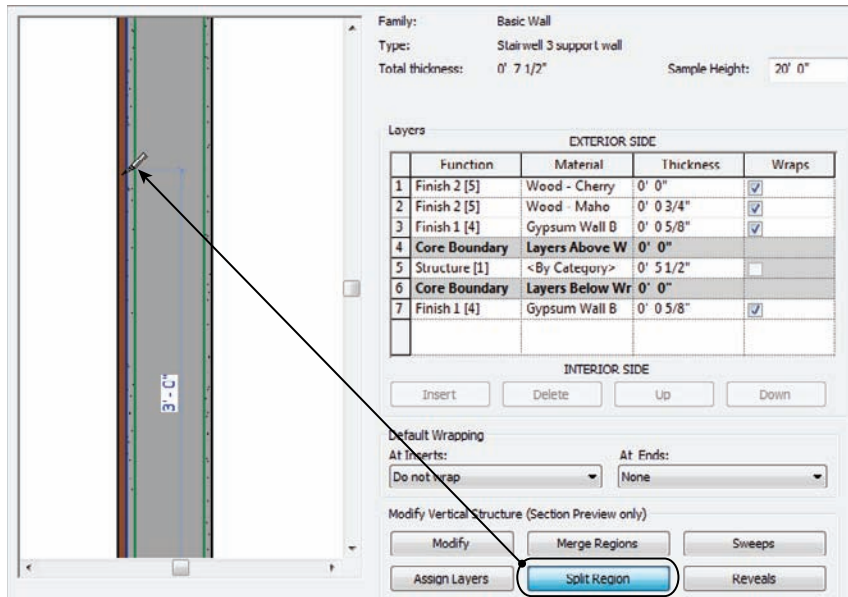

FIGURE 16.6 Cutting the plywood at a specific height
6. Click the Split Region button, as shown in Figure 16.6.
8. When you see 3'-0" (900mm) in the temporary dimension, pick the point as shown in Figure 16.6. *Do not press Esc when you're finished!* If you place the split in the wrong place, click the Modify button, and then select the split line you just created. You can then click the dimension field to edit the location. There is also a direction arrow that specifies whether the split is set from the bottom up (what you just did) or from the bottom down.